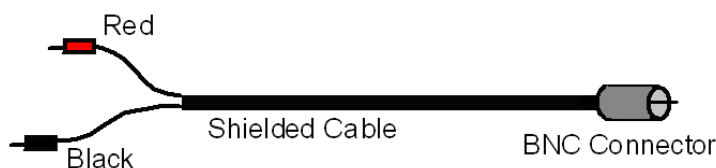

Figure 5.9: Cartoon of BNC-to-banana connector.
- The far right hand side is the OUTPUT of the signal generator. This is where we connect the cables to take the signal to an oscilloscope or an external circuit. We will use the two banana jacks at the bottom (the red and black ones) to connect banana plugs to a cable that has a BNC connector on the other end. The BNC connector is the round metal one that will connect to the “input” on the oscilloscope. The cable with the banana plugs and a BNC connector is shown in Fig. 5.9.